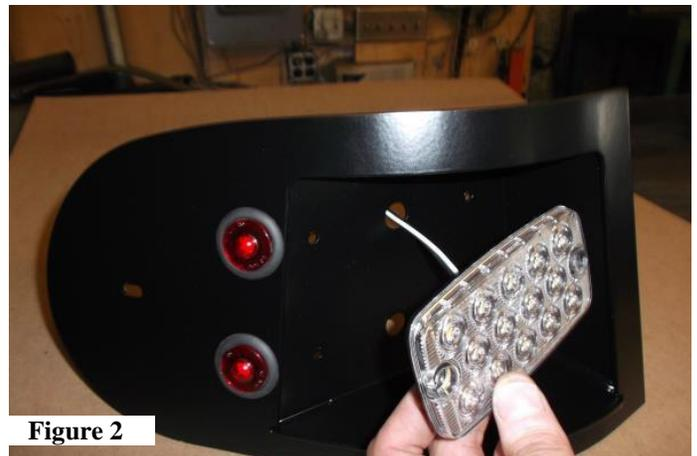

Figure 2
- b. Next, mount 1 Red rectangular S/T/T light, and 1 White rectangular Reverse light in the undercut portion of the fixture as shown with the provided screws and nuts (you may choose your configuration, with the reverse on the top, or reverse on the bottom, the lights are interchangeable with the mounting locations.) Again, thread the wires through the holes provided from the outside of the fixture as shown in Figure 2. The holes in the fixture may be tight due to the powder coat, if so, you should be able to screw them through before placing the nut on the back side. Tamper resistant screw covers are provided, which are one-time use caps. Do not install these caps until after you are completely satisfied with placement/configuration of your lights. You may also choose to not use the caps at all if that is your preference.